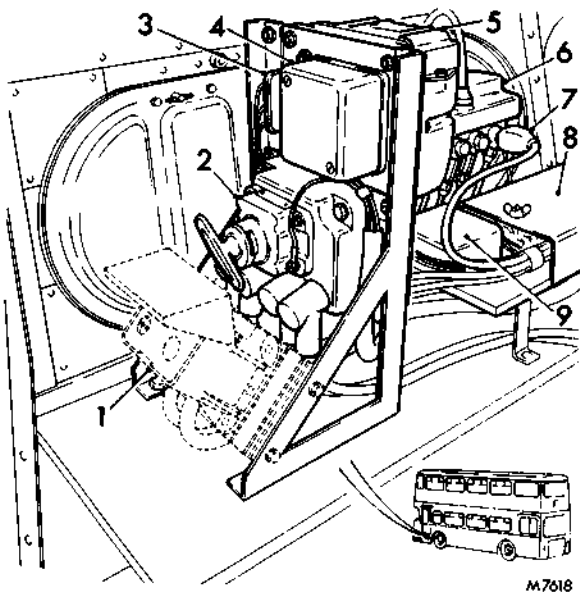

FIG. 2. VIEW OF COMPONENT LOCATION
The isolation switch item 2, Fig. 2, is normally mounted on a bracket on the right-hand side of the forward face of the engine bulkhead.
Connecting the batteries incorrectly (reverse polarity) will result in irreparable damage being done to parts of the system. The fast fuse item 9, Fig. 2, when wired correctly into the system, will protect the rectifying diodes and the solid state devices in the regulator against this condition. It consists of a precision made, high purity silver strip, surrounded by a fine quartz sand enclosed within a cylindrical ceramic body.
The starter motor isolation relay item 4, Fig. 2, is fitted so that the starter motor operation may be inhibited whilst the engine is running.
Located adjacent to the isolation switch item 1, Fig. 2. The boost charge socket is provided to enable a boost or trickle-charge of the vehicle batteries. Before connecting to the charging source always ensure that the battery isolation switch is isolated i.e. open condition. Failure to do this will result in a permanent supply being fed to the electrical installation.